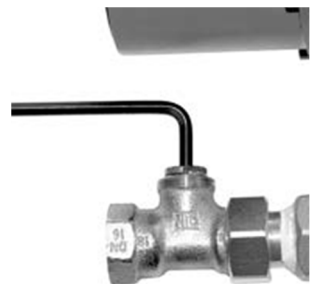

Fig.4
2. Screw in the insert of the valve with the 4 mm hex wrench till it is completely closed (Fig.4).